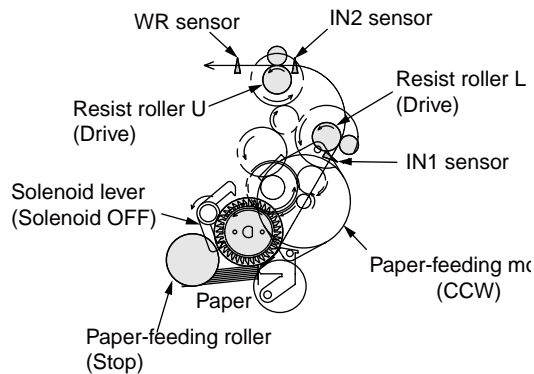

Figure 2-2
3. As shown in Fig.2-2, the solenoid is turned OFF, and the paper is transferred by resist roller L. (When the solenoid is turned OFF, the resist roller L is driven.)